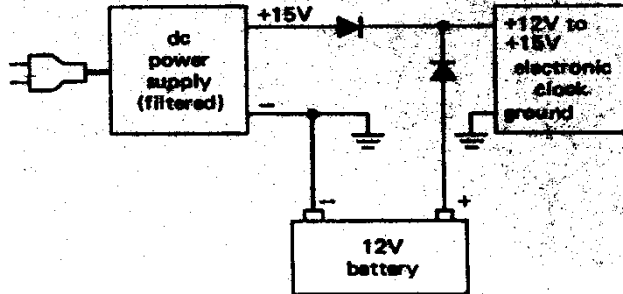

Fig.11. Diode OR gate, battery backup.
- A good example is battery backup, a method of keeping a device running (for instance a precision electronic clock) in case of power failure. Figure 11 shows a circuit that does the job.